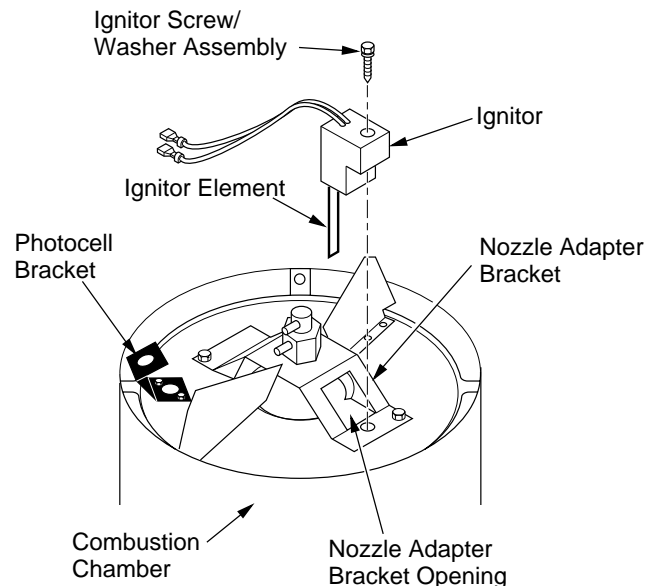

Figure 17 - Ignitor Replacement
6. Remove combustion chamber. Stand combustion chamber on end with nozzle adapter bracket on top (see Figure 17).
9. Carefully guide ignitor into opening in nozzle adapter bracket. Do not strike ignitor element. Attach ignitor to nozzle adapter bracket with screw using a 1/4" nut driver (see Figure 17). Torque 8 to 15 in. lbs. Do not over torque.